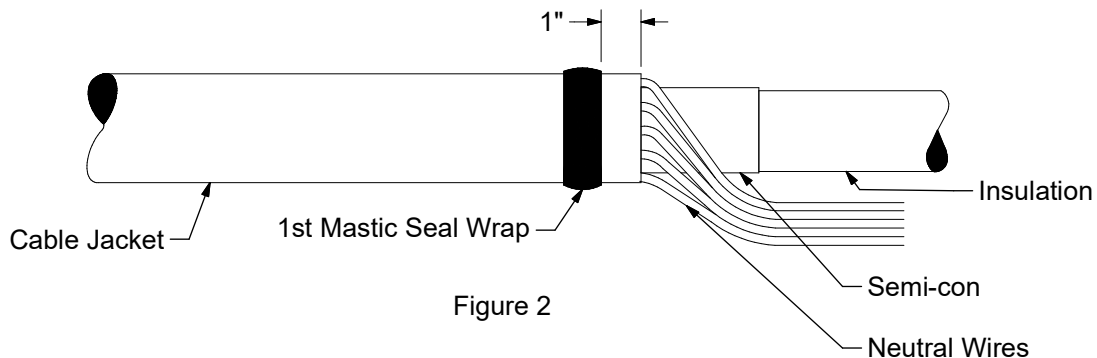

Figure 2
2. Select the roll of 1" wide Scotch Sealing Mastic 2229 from the kit. Cut a length of the mastic long enough to wrap around the cable jacket. Remove the release liner from the mastic and, using a light tension, apply a single wrap of mastic around the cable jacket 1" from the edge. (Figure 2)